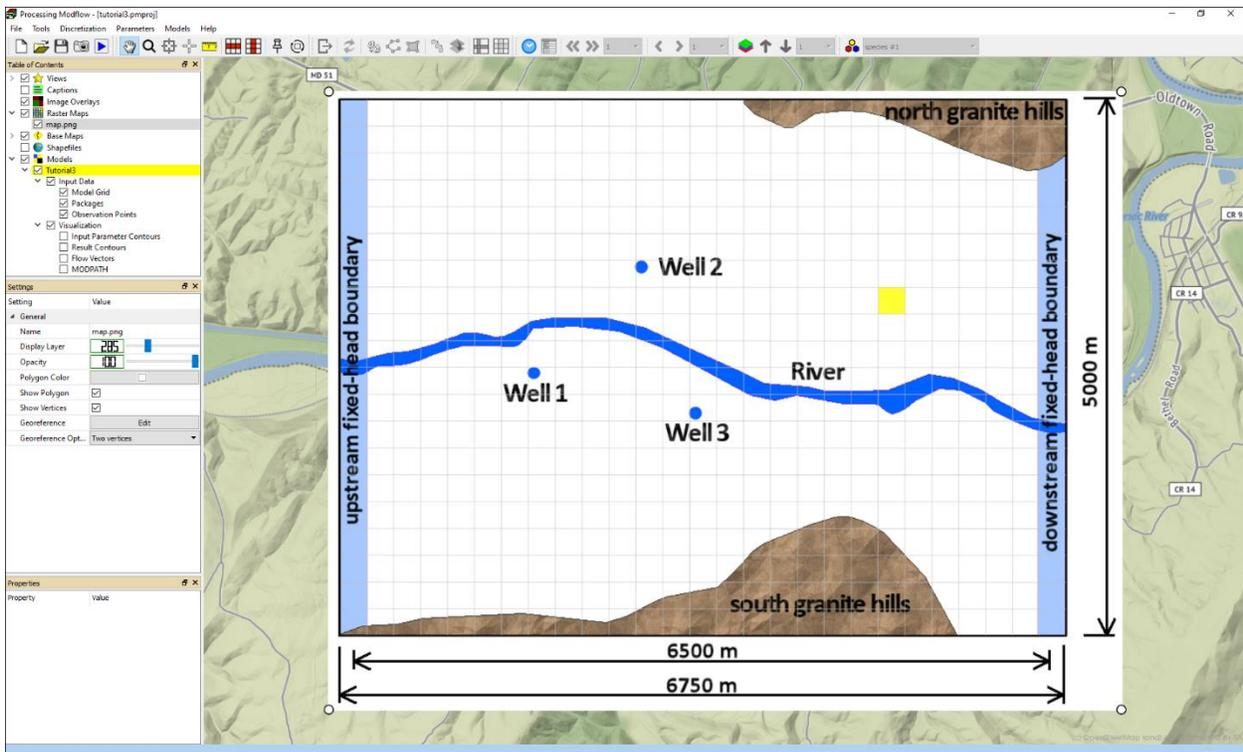

Figure 6. Model grid with a reference map
2. Select the file map.png from the Tutorial3¹ folder, and then click Open. The map and its vertices (on the corners of the map) are displayed on the Map Viewer. Drag the vertices to align the raster map with the model domain. You may adjust the display settings (e.g., Display Layer = 300) of the map and/or the model grid so that they do not obscure each other. After adjustments, the loaded map should look like Figure 6.